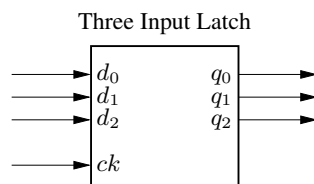

Figure 4: Schematic of a three input latch
*A schematic for the latch is shown in Figure 4.*